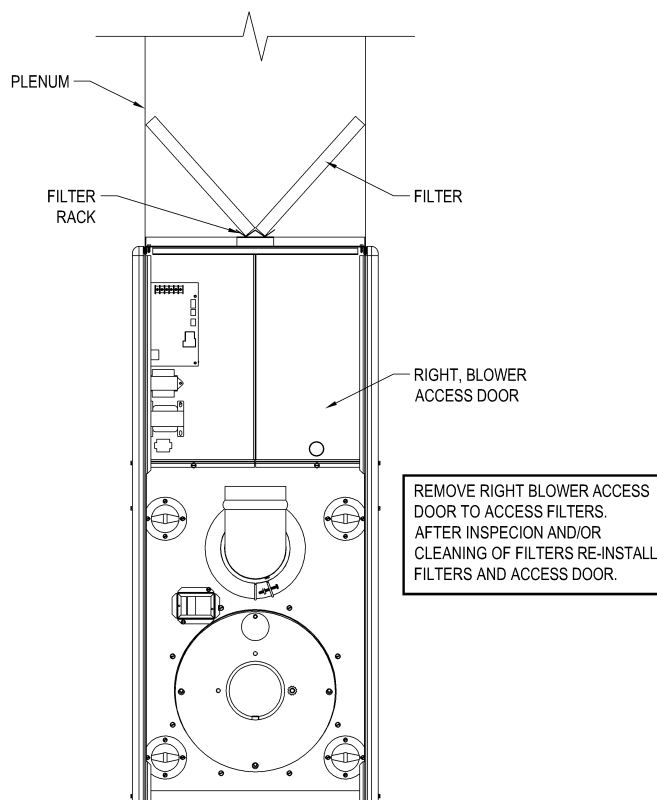

Figure 26: Location of Supply/Return Air Filter
Shut off the electrical power to the unit. The filter rack is located above the blower refer to Figure 26 on the next page. Remove the front door of the furnace. Remove the (2) screws retaining the right blower access door to the housing. Remove the access door. Slide the air filter out of the filter rack. Clean the filter by either vacuuming, rinsing with tap water, hosing, or dipping in an ordinary detergent solution. After cleaning and drying the filter, replace the completely dry filter in the rack. If the filter has a supporting mesh, the mesh side of the filter must be placed towards the furnace. Replace the right blower access door and the front door before turning the electrical power back on to the furnace.